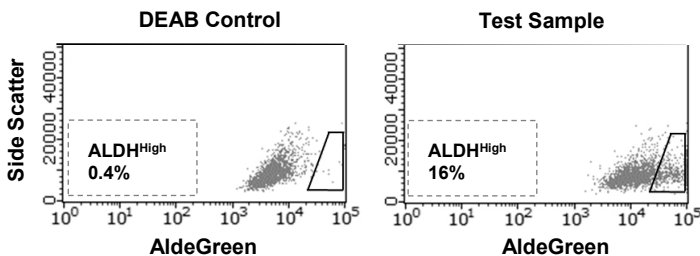
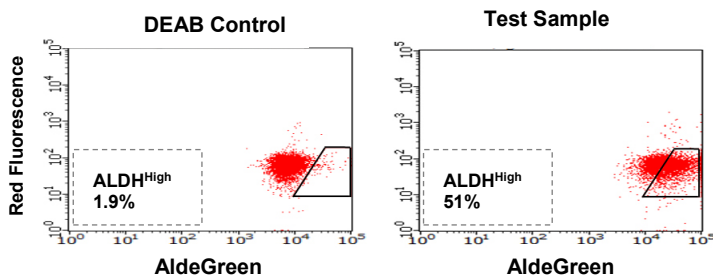

Figure 2. ALDH activity in UM-SCC-47 head and neck squamous cell carcinoma cell line (Cat. No. SCC071).
Figure 3. ALDH activity in K562 chronic myeloid leukemia cells.
Note: Cell concentration may require optimization for each cell type (e.g. optimal concentration of SK-BR-3 cells is 1-2x10⁵ cells/mL, see Fig. 2). Testing a range of cell concentrations is recommended for determining the highest signal to background ratio (i.e. Test sample to DEAB-treated control sample).
3. Run a corresponding "test" sample and create a region R2 that contains ALDH^{high} cells (see Fig. 2 and Fig. 3).